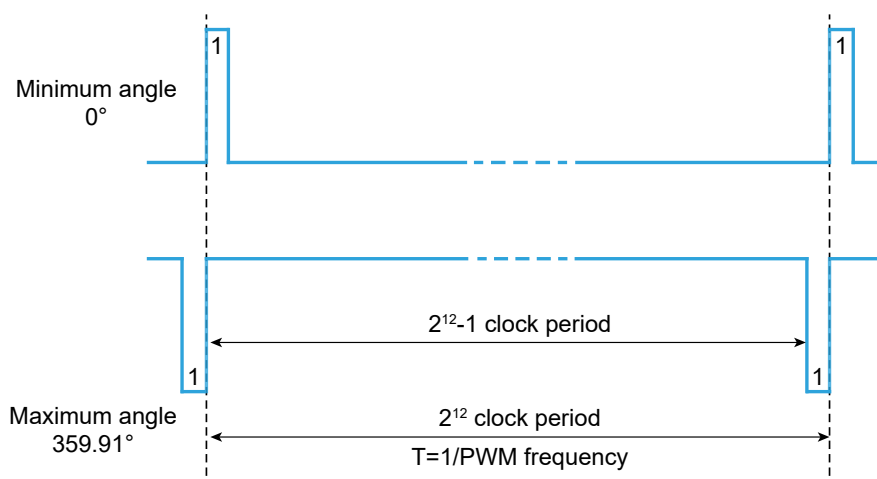

Figure 11. Waveform of PWM mode output signal
TMR3105AP supports pulse width modulation (PWM) output. The duty cycle of PWM is a logic signal which proportional to the magnetic field angle. The duty cycle is limited by the minimum value (1/4096 of the period) and the maximum value (4095/4096 of the period), so the duty cycle varies from 1/4096 to 4095/4096 with the resolution of 12-bits. Figure 11 shows one period of the PWM signal, and the period (T) is  $1/F_{PWM}$ .